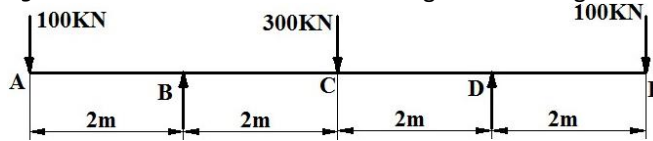

Figure 28
19. For the beam shown in **Figure 28**. Draw shear force and bending moment diagram